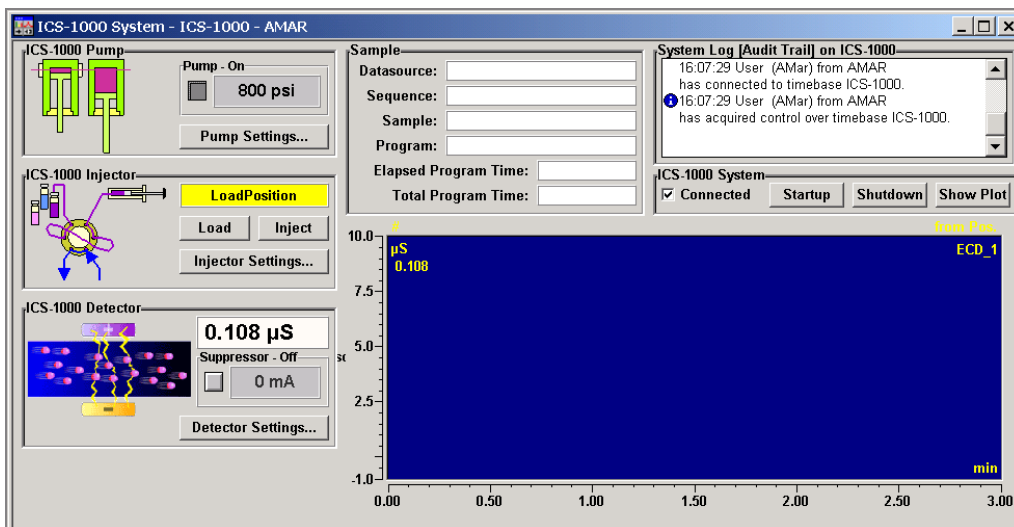

Figure B-33. ICS-1000 System Control Panel Example
19. Double-click the .pan file to open the Control Panel for your system (see the example in Figure B-33).